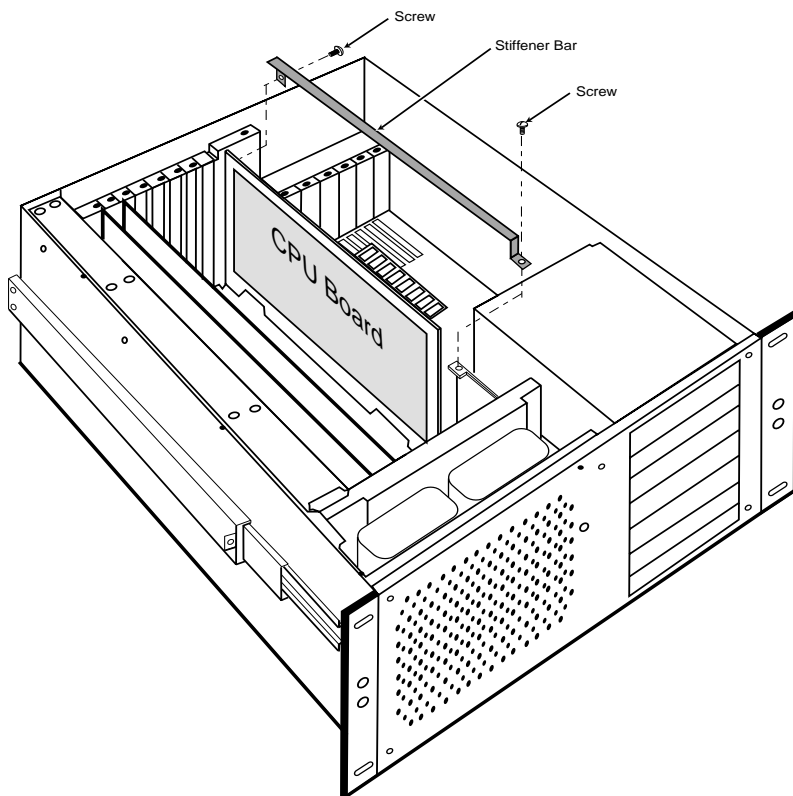

Figure 4-10. CPU Board Installation Diagram
- [] 1. Refer to Figure 4-10 to locate the CPU Board. Note the board is secured to the chassis with a stiffener and two hold-down screws; one screw at the rear upper corner of the board and the other screw securing the stiffener to the front of the chassis.
- [] 1. Refer to Figure 4-10 to locate the CPU Board within the chassis.